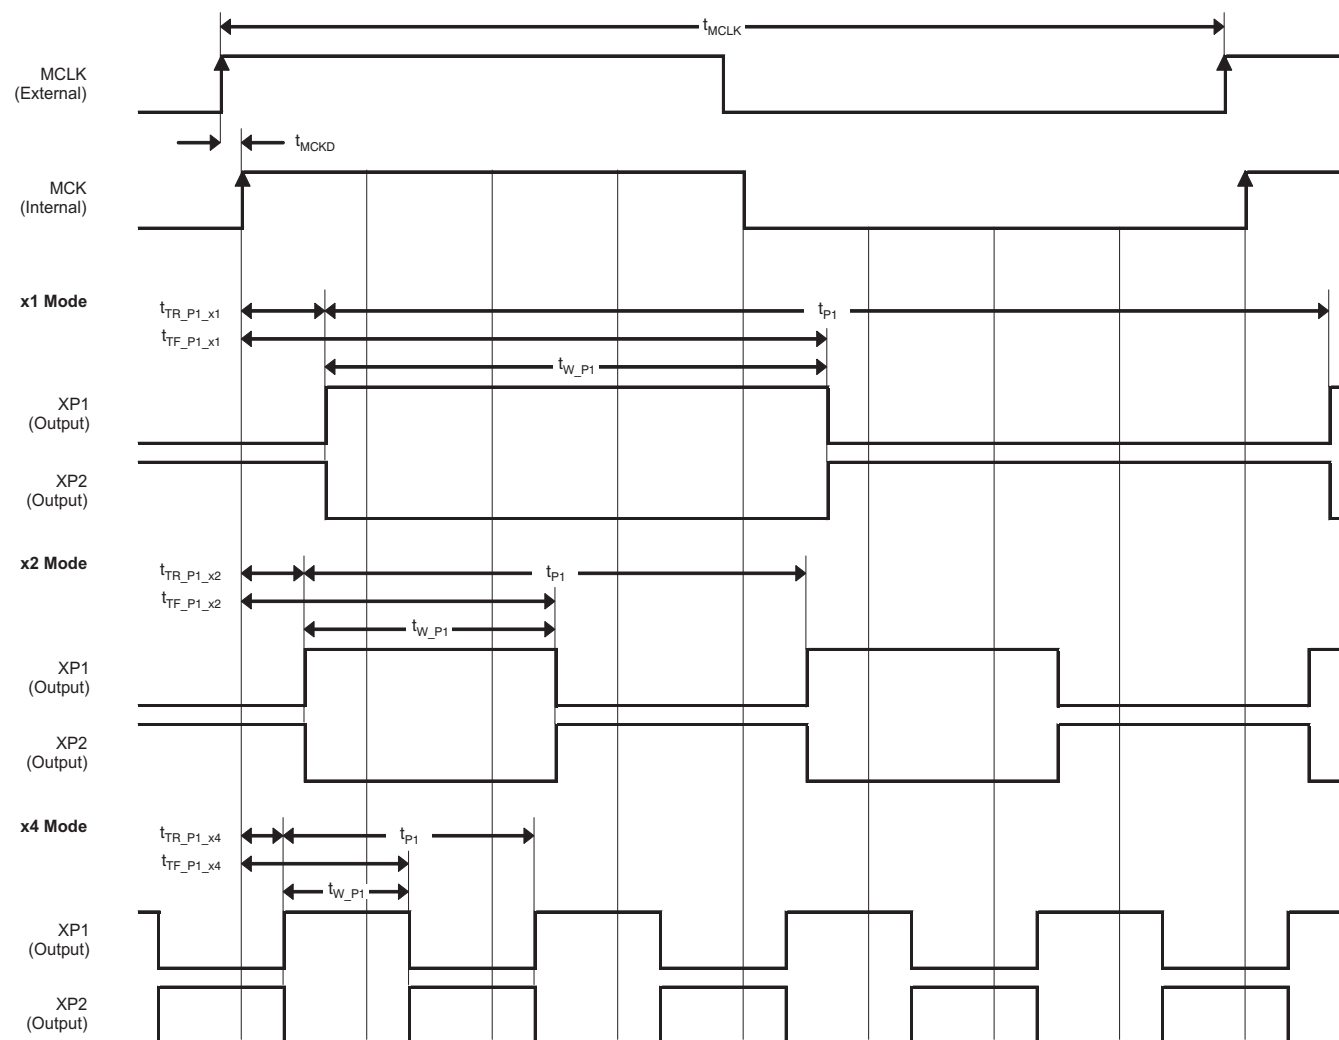
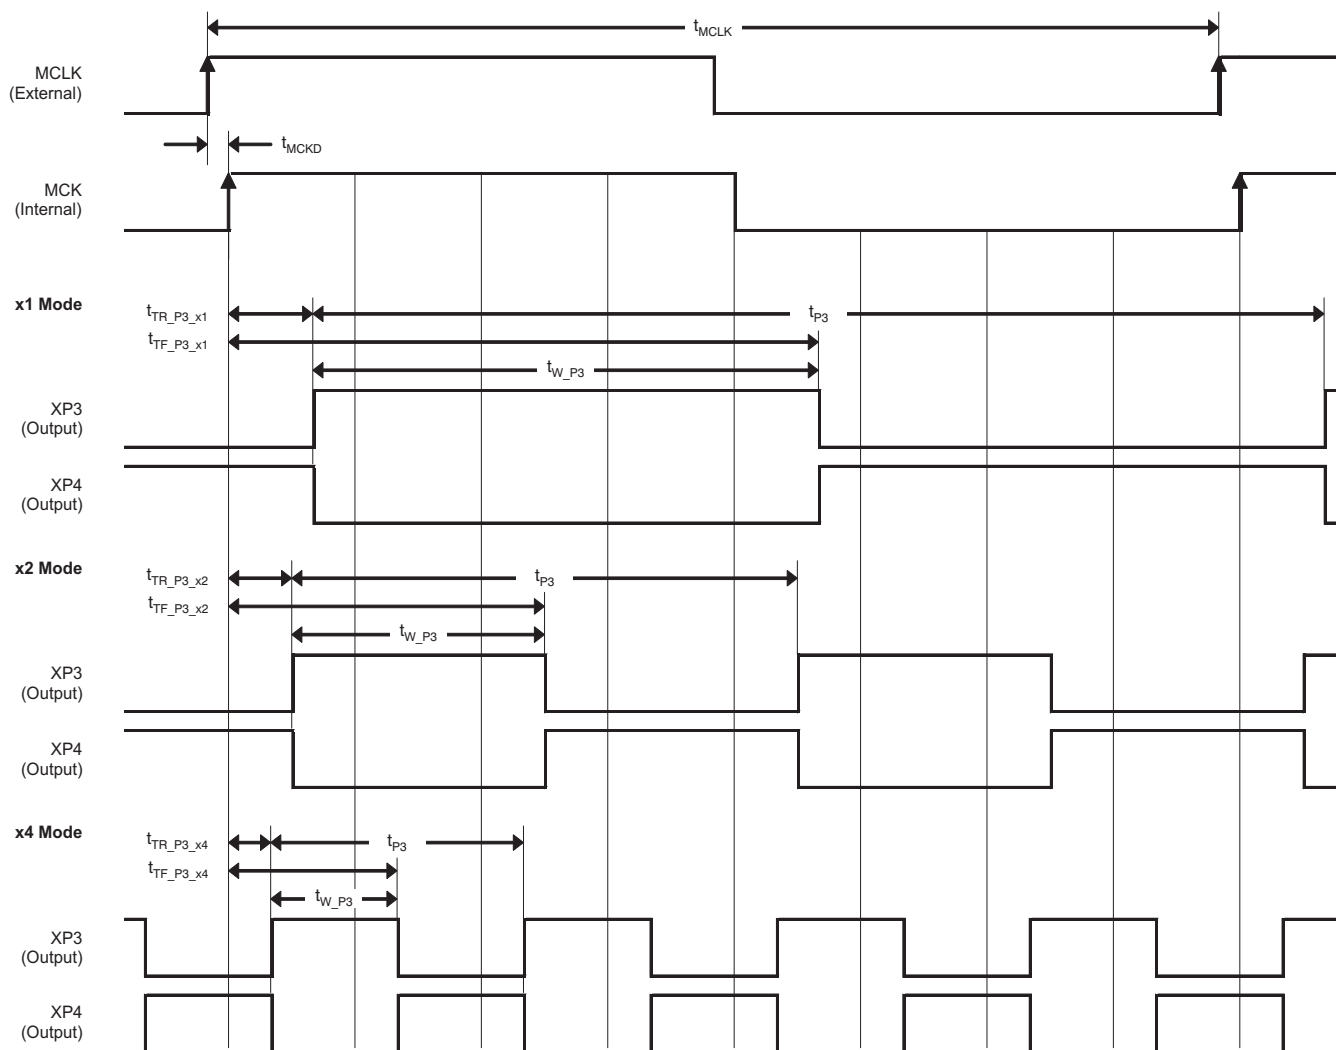
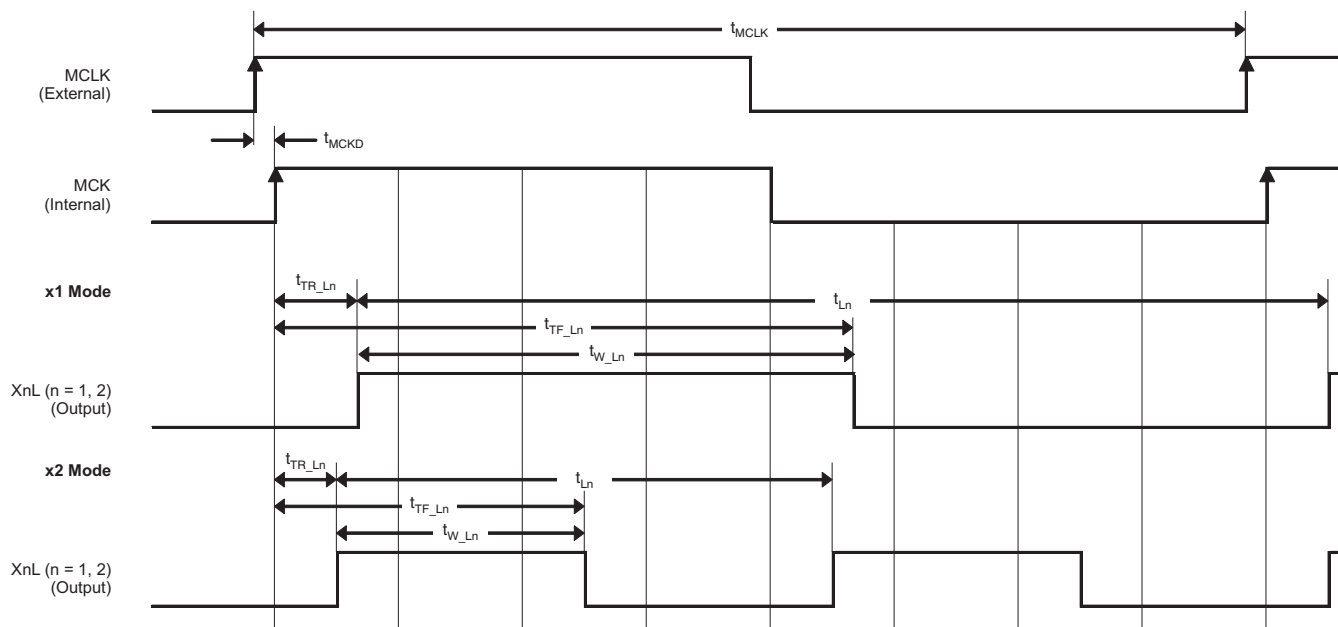

Figure 22. XP1 and XP2 Fast Transfer Clock Pulse Setting
Figure 23. XP3 and XP4 Fast Transfer Clock Pulse Setting
Figure 24. X1L and X2L Fast Transfer Clock Pulse Setting
This section describes the timing of the fast transfer clock pulse for XRS (Figure 20), XCP (Figure 21), XP1 and XP2 (Figure 22), XP3 and XP4 (Figure 23), and X1L and X2L (Figure 24).
**Table 14. Timing Requirements for Figure 22**
**Table 15. Timing Requirements for Figure 23**
Table 16. Timing Requirements for Figure 24